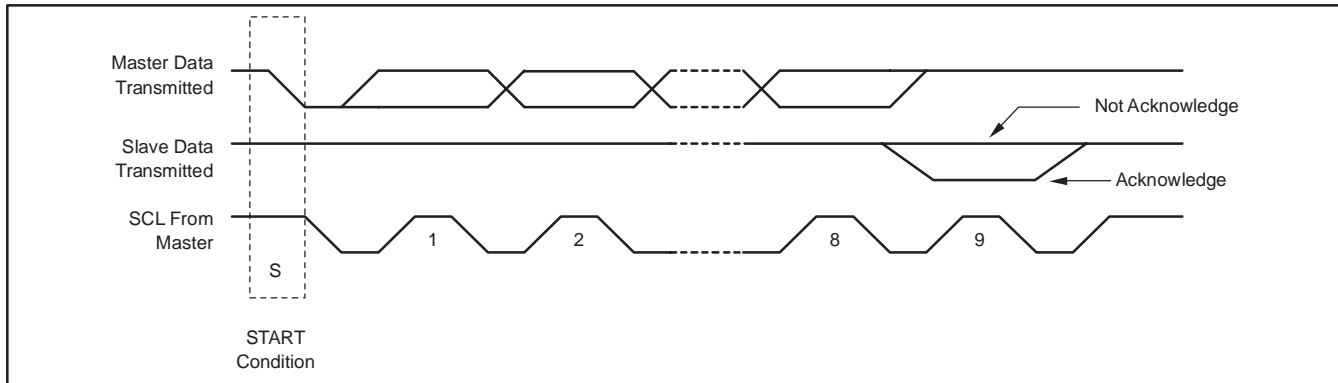

Figure 44. Two-Wire Acknowledge
- **Acknowledge:** Each receiving device, when addressed, is obliged to generate an acknowledge bit. A device that acknowledges must pull down the SDA line during the acknowledge clock pulse in such a way that the SDA line is stable low during the high period of the acknowledge clock pulse. Setup and hold times must be taken into account. On a master receive, the termination of the data transfer can be signaled by the master generating a not-acknowledge on the last byte that has been transmitted by the slave (see Figure 44).